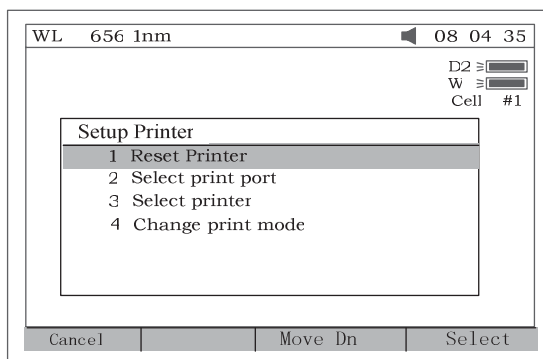
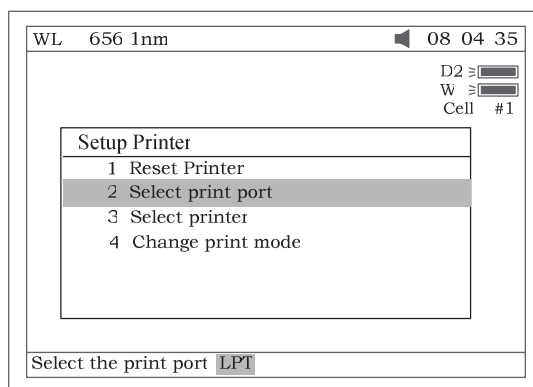
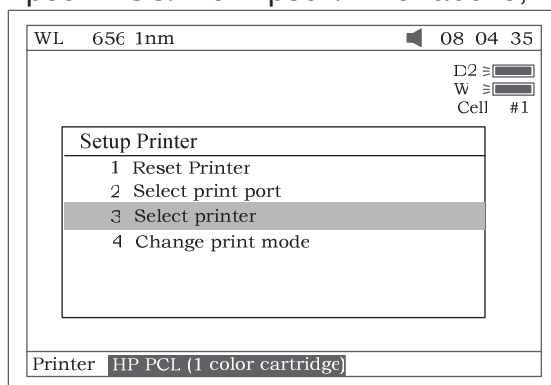
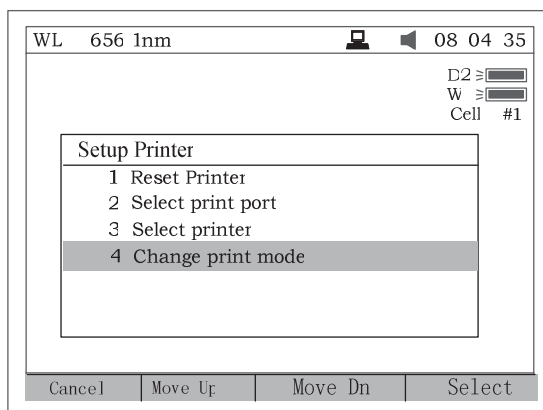

Fig 74
Fig 75
Fig 76
Fig77
Press **[2]** to set printer (Fig 74). **[ESC]** to exit.
1. Press **【1】** in Fig 74 to Reset Printer.
2. Press **【2】** in Fig 74 to select print port (LPT or Comm., Fig 75).
3. Press **【3】** in Fig 74 to select printer (HP PCL (1 color cartridge), PCL (black mode), Epson ESC/P or Epson/P2 or above, Fig76).
4. Press **【4】** in Fig 74 to change print mode. The first time **【4】** be pressed, a little icon will be displayed on the top line of the screen (Fig 77). At this mode, When **【Print】** be pressed, all the items on the screen will be printed. The second time **【4】** be pressed, the little icon will disappear. At this mode, when **【Print】** be pressed, a test report will be printed.